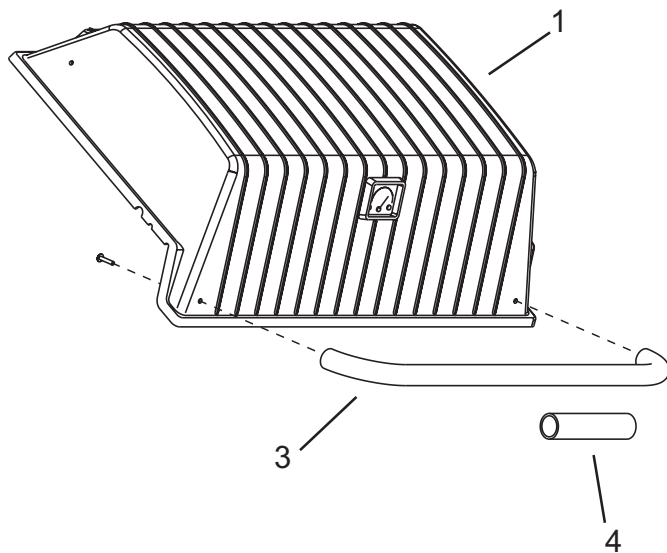

Figure 6
Fasten the front handle (3) to the grill lid (1) with two #10-24 x 1" screws. Figure 6.